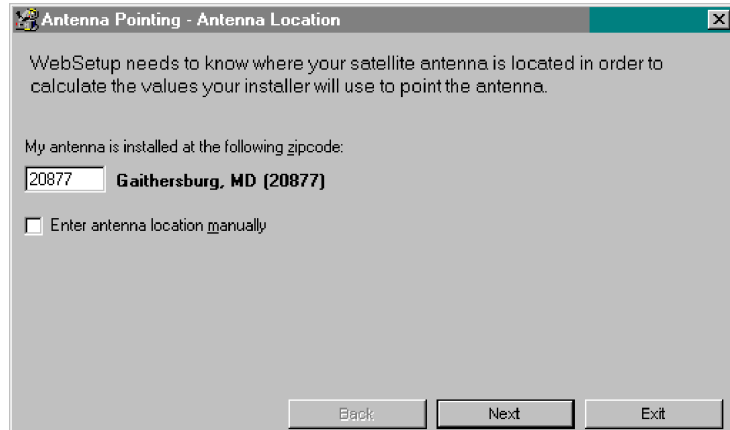

Figure 21: Enter ZIP code
9. Select Continue in the Registration screen in Figure 20. The Antenna Pointing - Antenna Location screen appears. See Figure 21.